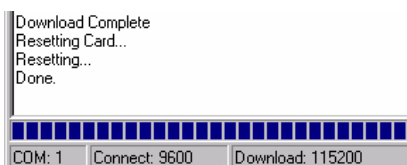

Figure 25: Upgrade Process Complete
7. The receiver should finish downloading and reset. The process is complete when “Done.” is displayed in the main display area, see *Figure 25*.